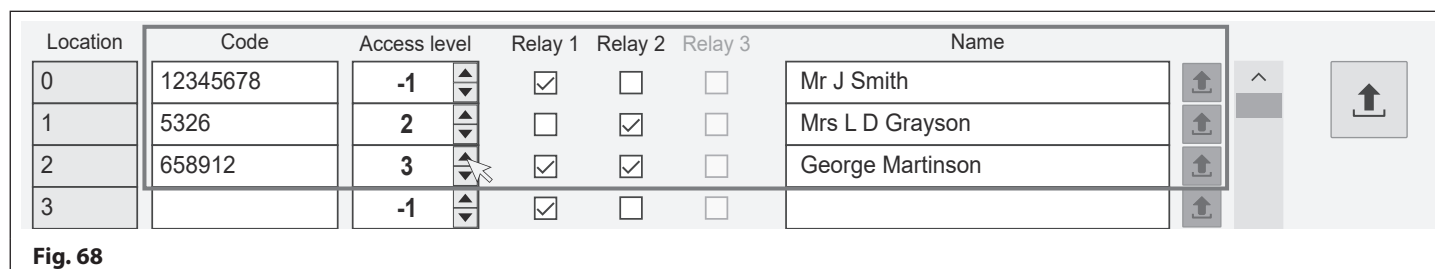

Fig. 68
- Click on the **code field** next to the location where access code is going to be stored. Enter the access code required (between 4 to 8 digits), as shown in **Fig.68**.